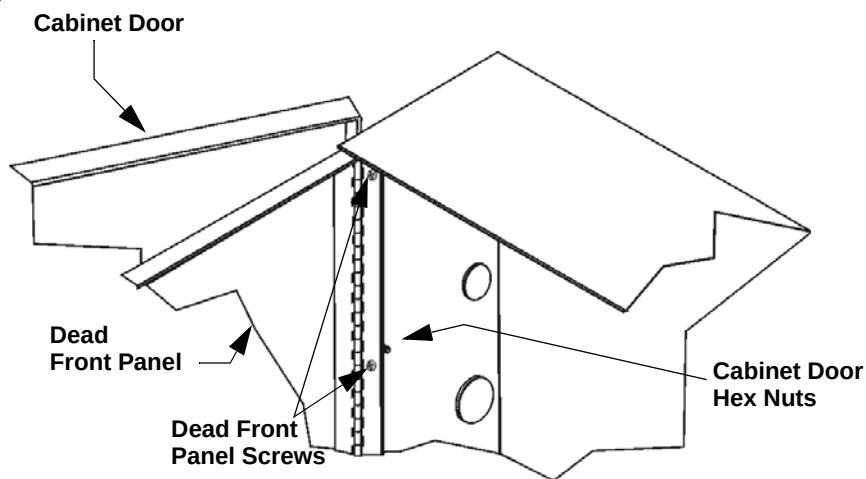

Figure 3-11 Cabinet Door and Dead Front Panel Removal
4. Using a Phillips head screw driver, remove the six screws that hold the dead front panel in place. See Figure 3-11.
5. Using a 1/4" Hex drive, remove the six Hex nuts that hold the cabinet door in place. See Figure 3-11.